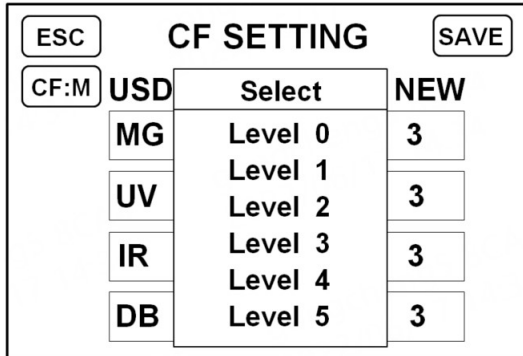

Figure 40
b) Touch the value 3 in the NEW line corresponding to MG, and the interface shown in Figure 40 below appears. Each counterfeit detection gear has 6 grades, from 0 to 5. 0 represents the closed counterfeit